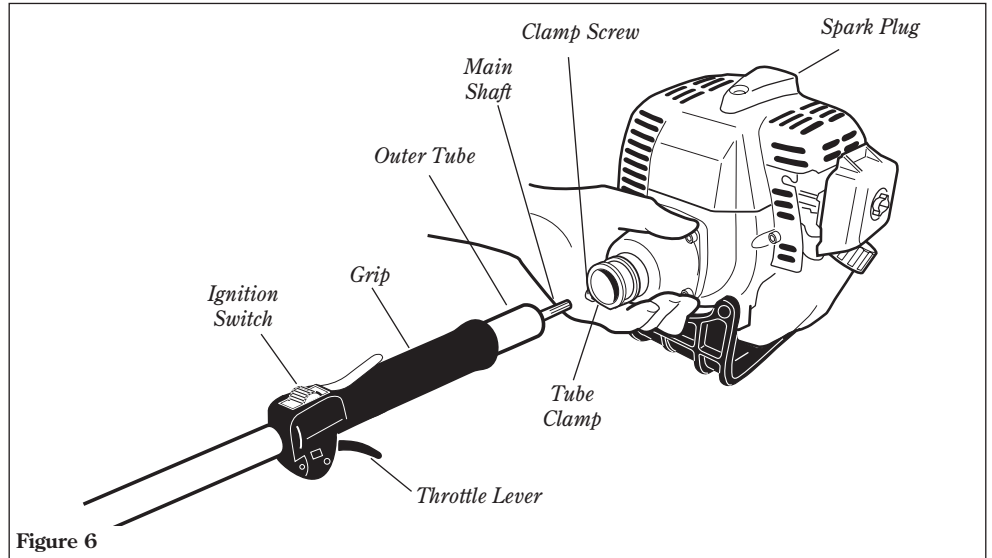

Figure 6
4. Slide the outer tube into the tube clamp until the tube bottoms. If installation is difficult, rotate the outer tube or gearcase shaft slightly until you feel the mainshaft engage with the powerhead. See Figure 6.
5. Position the outer tube so that the ignition switch is facing up and the throttle lever is facing down. See Figure 6.